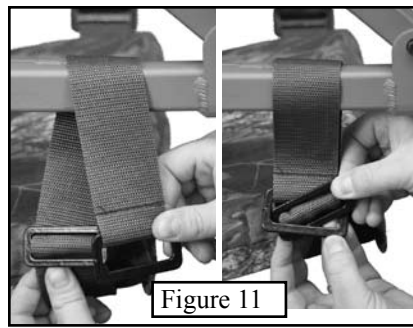

Figure 11
**Bullet SS and Broadhead SS Seat Attachment.** The seats on these stands are removable. **DO NOT** reverse the seats on these stands. **DO NOT** leave your stand outdoors when you are not using it. See **Figure 11** for buckle usage diagram.